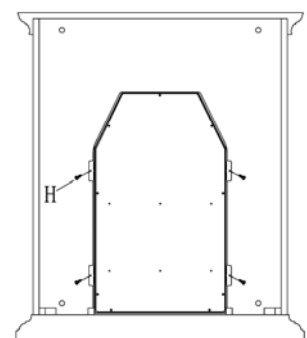

Figure 6
- Fix fireplace to mantel with 4 Screws (H). (Figure 6)